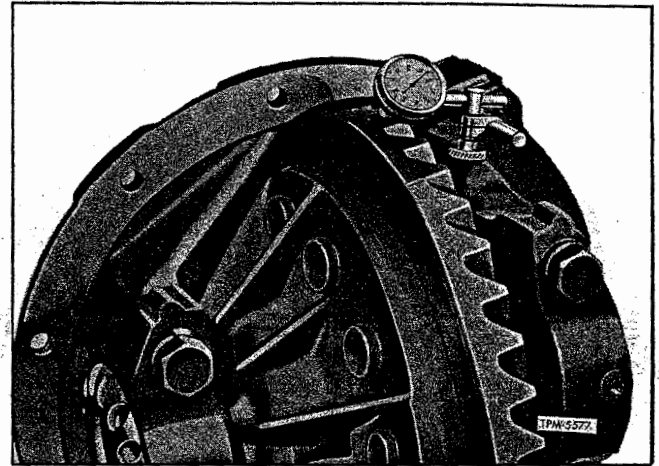

Figure 9—Back Lash Check (Typical)
If original gears are reinstalled in assembly, painting gear teeth will not indicate the same contact as new gears and can be misleading. Gears that have been in service for extensive periods, form running contacts due to wear on teeth. Therefore, the original shim pack (17) plus one .005" shim should be maintained to check backlash. Figure 9 shows typical method of checking backlash.
When new gears are to be installed, differential bearings and drive pinion bearings must be in proper adjustment before any attempt is made to adjust backlash. Check backlash with dial indicator as shown in figure 9, and adjust to obtain 0.006" - 0.012" lash. Adjust backlash and tooth contact in the following manner: